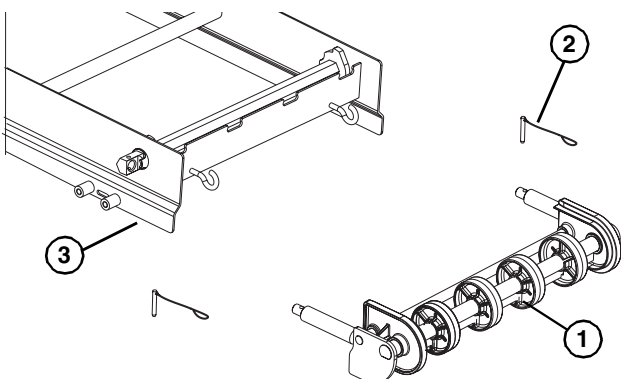

**Figure 14**
- Slide the tip up sleeves (**Figure 14, item 1**) and stop keys (**Figure 14, item 1**) outward on hex shaft assembly (**Figure 14, item 3**) until the sleeves seat in the holes of the frame and stop keys are seated against frame stops (**Figure 14, item 4**).